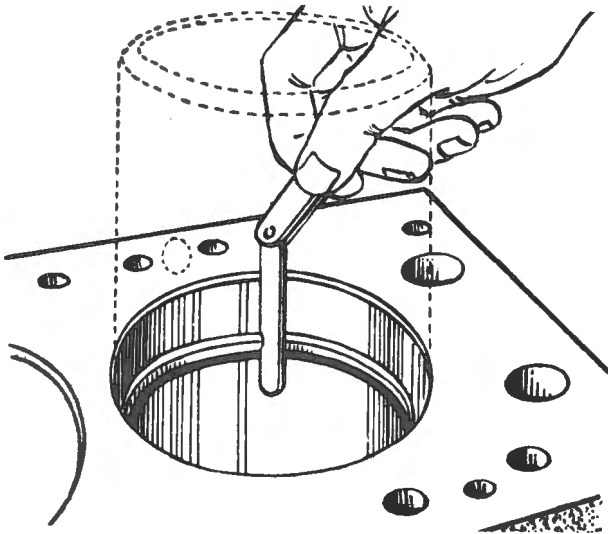

Fig. E-40
- 6 Check the piston ring gaps at the lower ends of the cylinder bores, Fig. E-40.